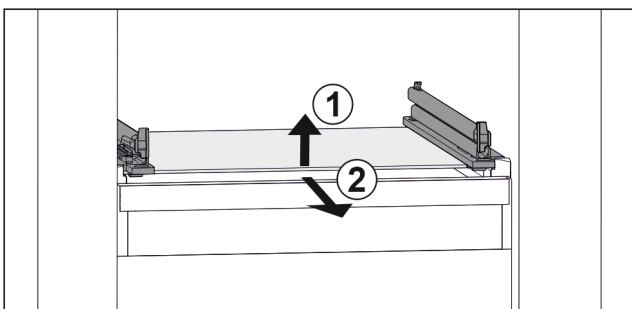

Fig. 44 Example illustration of glass shelf
- ▶ Lift glass shelf at the front. *Fig. 44 (1)*
- ▶ Take out glass shelf to the front. *Fig. 44 (2)*